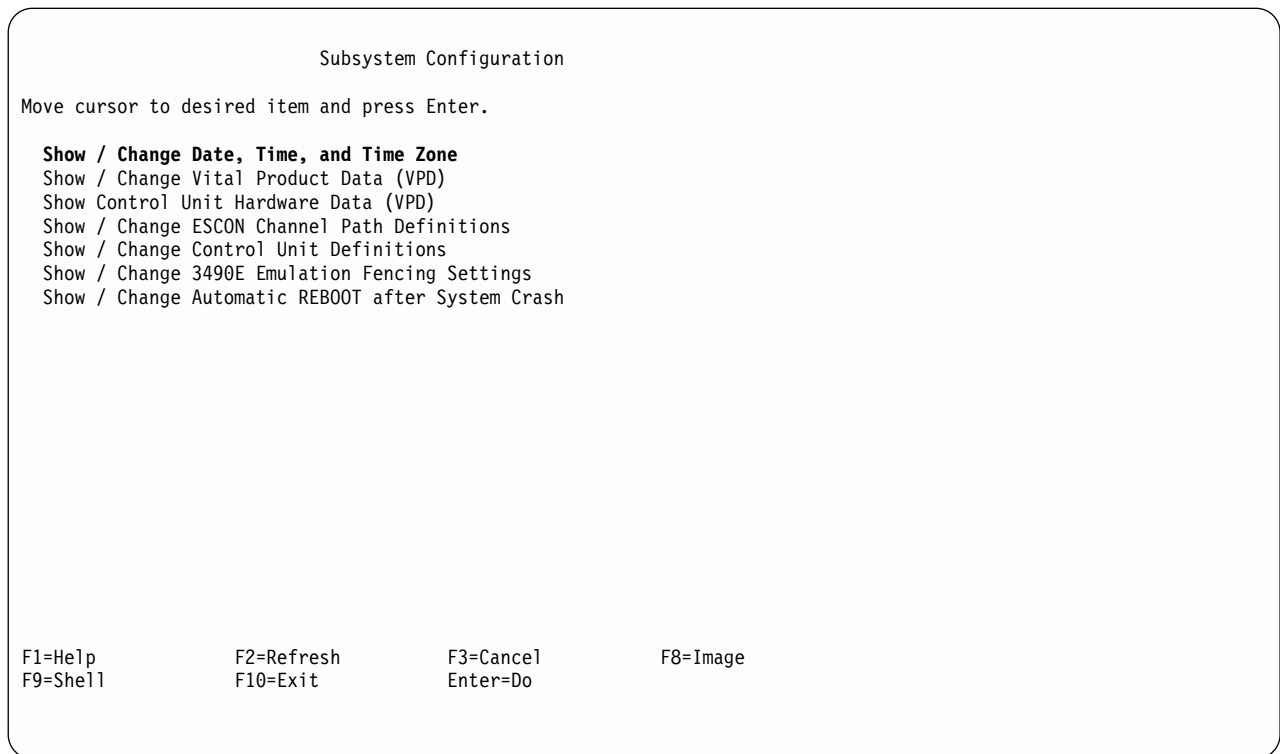

Figure 139. Subsystem Configuration
3. From the next menu to appear, Select the "Show / Change Date, Time, and Time Zone" (see Figure 139 on page 393)